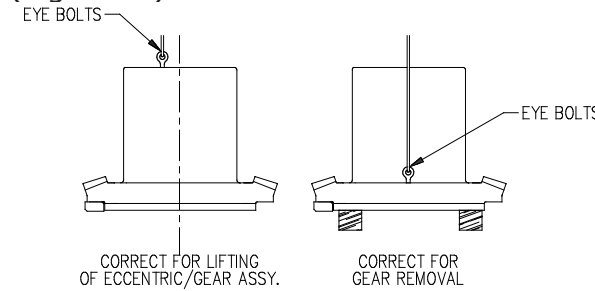

Fig. 6.9.1
2. To minimize handling and thus minimize risk of damage to the eccentric sleeve place the eccentric sleeve on two sleepers. (Fig 6.9.1).